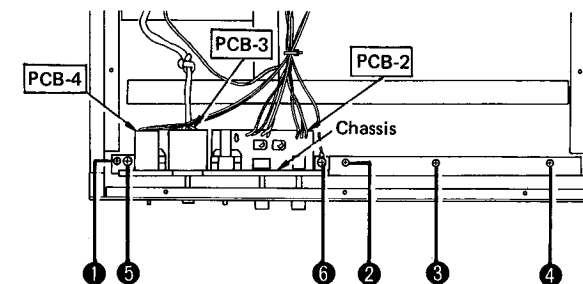

Fig. 2
2. Remove screws 1 to 4 in Fig. 2 and remove the front panel with chassis and PCB-2, 3, 4.
3. Remove screws 5 and 6 in Fig. 2 and separate the chassis with PCB-2, 3, 4 from the front panel.